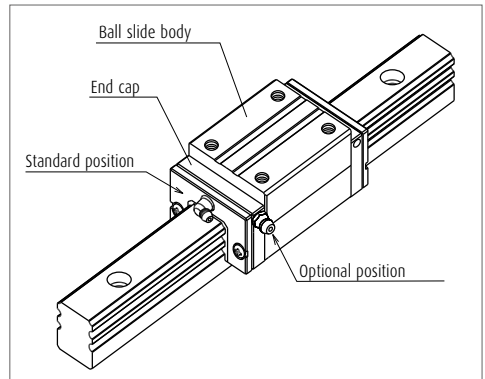

Fig. 11 Mounting position of lubrication accessories
(2) Mounting position of lubrication accessories
- > The standard position of grease fittings is the end face of ball slide. We mount them on a side of end cap for an option. (Fig. 11) .